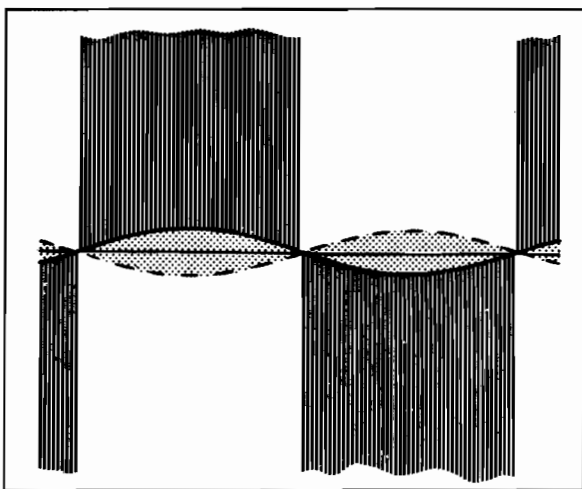

Figure 7a - COMPOSITE EQ Adjustment
5. As the COMPOSITE EQ (EQUALIZATION) control is rotated from one extreme to the other, the observed baseline should pass through a point of optimum flatness in the "up and down" direction, as depicted in Figure 7a. Set the control for best flatness at the 1kHz test frequency.